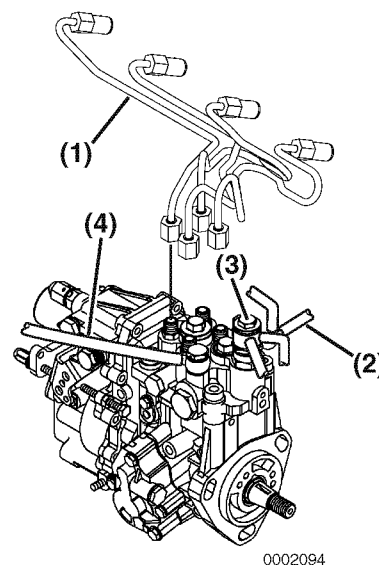

Figure 7-9
5. Remove the high-pressure fuel injection lines as an assembly (**Figure 7-9, (1)**).
8. Disconnect the coolant lines from the cold start device (**Figure 7-9, (3)**) on the fuel injection pump. Plug the open ends of the lines to minimize leakage and prevent contamination. This cooling water pipe is not used in electronically controlled engines 4ÇsNV84T-Z, 4TNV98-Z, 4TNV98-Z, and 4TNV98T-Z.
9. Disconnect the fuel return lines from the fuel return fitting (**Figure 7-9, (2)**). Plug the open ends of the lines to minimize leakage and prevent contamination.
- Remove the fuel supply line (**Figure 7-9, (4)**). Plug the open end of the line to minimize leakage and prevent contamination.